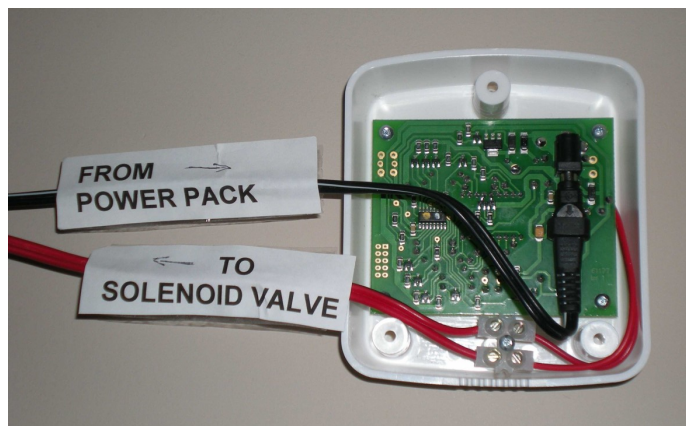

Figure 1
Plug the power into the socket on the printed circuit board. Squeeze plug and socket between two fingers and thumb to ensure that the plug is fully home. About 3mm of the plug will remain outside the socket (See Fig 1).
- The PCA output leads are terminated on a connector block. Run a figure 8 lead (17 gauge or 1mm minimum diameter conductors) from here to the solenoid as per Figs 1 and 2